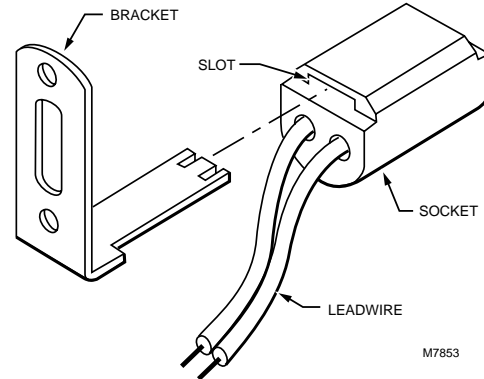

Fig. 3. Insert mounting bracket into socket slot.
- 3 Insert the mounting bracket into the socket slot (Fig. 3) as far as it will go.
- 4 While holding the mounting bracket in the slot, insert the screwdriver in the other end of the slot (Fig. 3). Bend the screwdriver, first to the left and then to the right, to crimp the end of the mounting bracket and hold it in position.